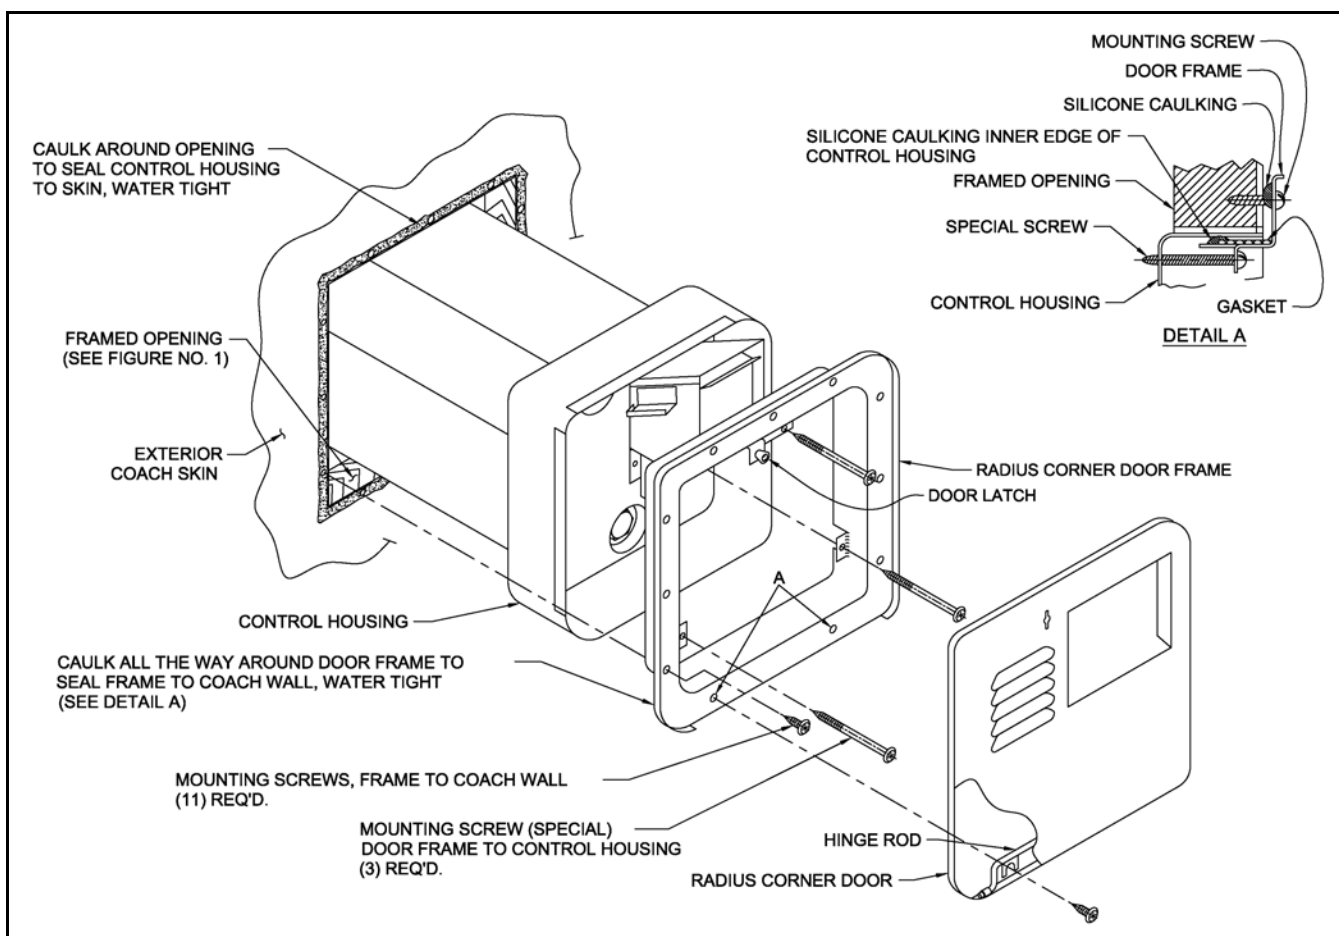

Figure 3
(See Figure 3 for illustration)
- F. Fit the door frame into control housing (over the caulking already applied) and pull frame tight to control housing using the three (3) No. 8-15 x 3 1/2" screws provided.
- G. Push water heater into framed opening until back side of door frame (now attached to control housing) is against the side of the coach and firmly attach with screws around the perimeter of the frame. NOTE: The two (2) holes in bottom of frame identified as "A" in Figure 3 are also used to mount door hinge to the frame.